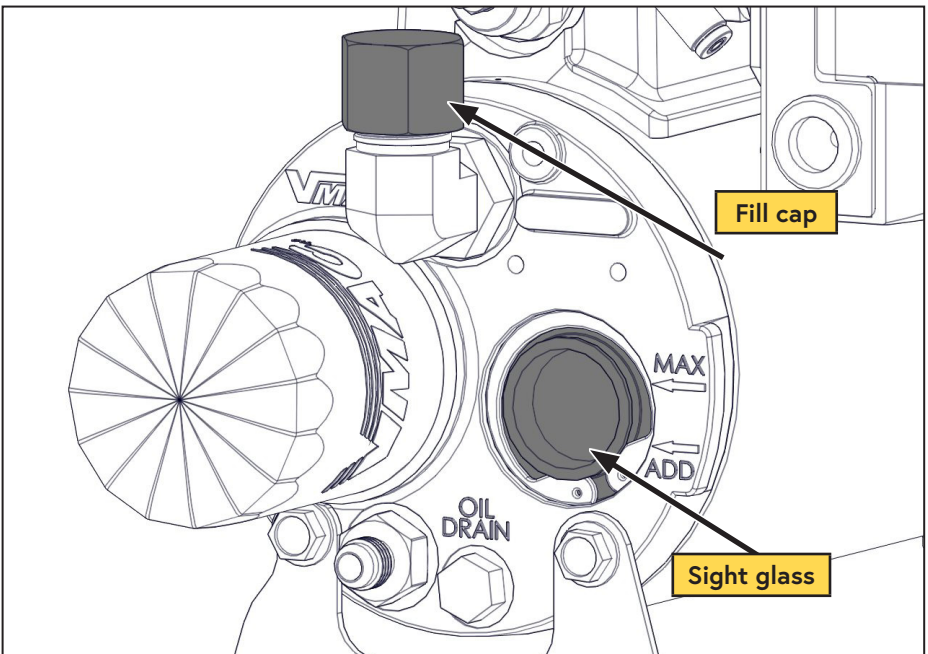

Figure 48 — Filling the WHASP Tank
- Remove the fill cap on the WHASP Tank (above the sight glass) (Figure 48).
- Using a funnel, pour oil into the tank until the oil level in the sight glass reaches the "MAX" line. **The system capacity is 4 L** (Figure 48).